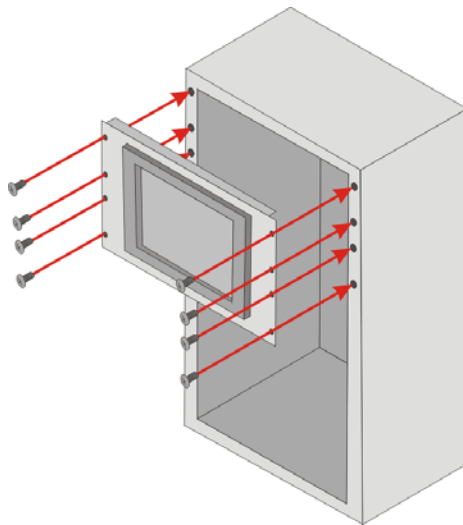

Figure 3-21: Install into a Rack/Cabinet
Step 6: Slide the flat bezel panel PC with the attached rack/cabinet bracket into a rack or cabinet (**Figure 3-21**).
Step 7: Once the flat bezel panel PC with the attached rack/cabinet bracket has been properly inserted into the rack or cabinet, secure the front of the rack/cabinet bracket to the front of the rack or cabinet (**Figure 3-21**).